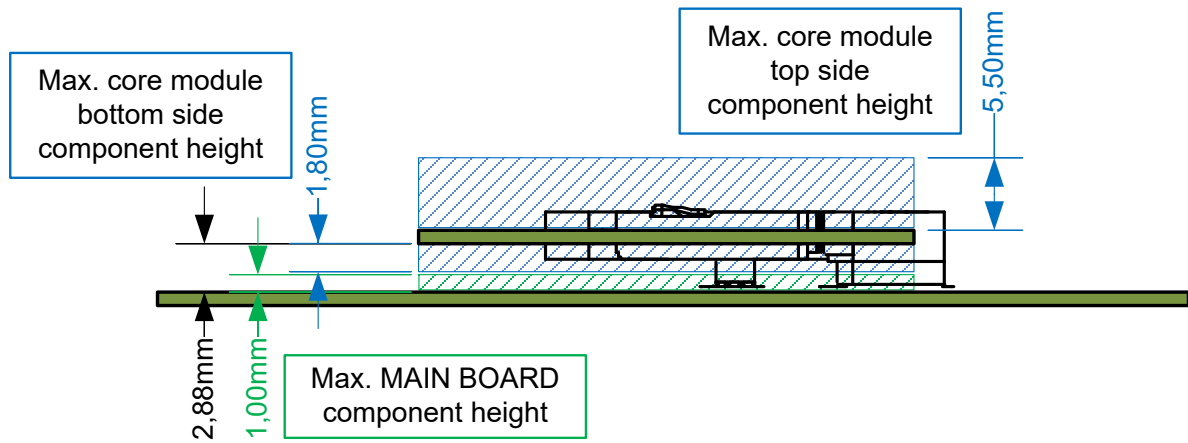

Figure 7: Maximum component heights
- Figure 7 shows an example with 5,2mm SODIMM-200 socket height.